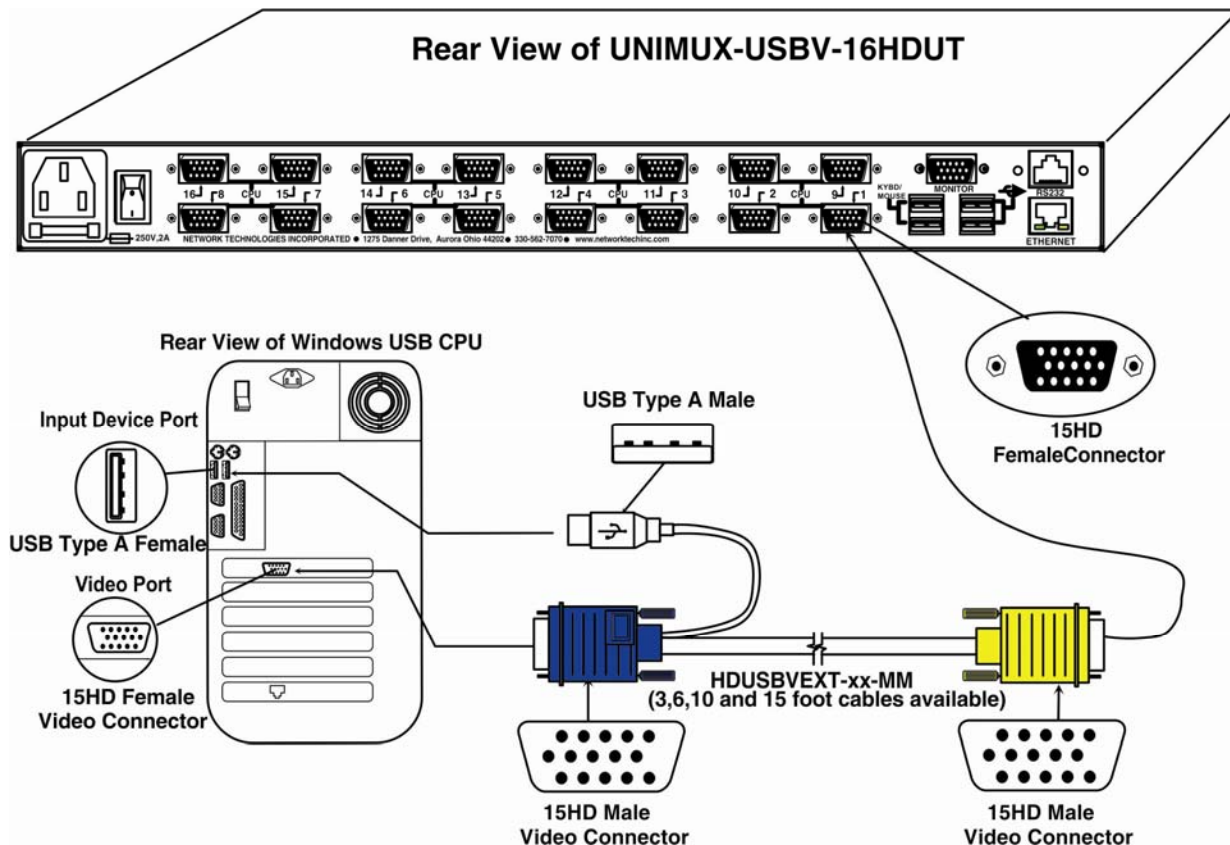

Figure 7- Connect each CPU using a HDUSBVEXT-xx-MM cable
- Connect the 15HD yellow male cable end of the HDUSBVEXT-xx-MM cable to a “CPU x” port on the UNIMUX switch. (See Figure 7)